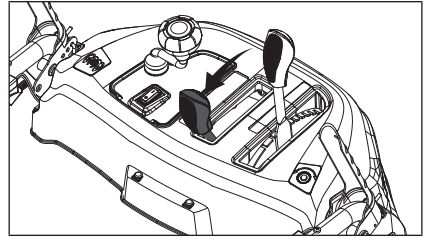

Figure 78
1. Adjust deflector to fully upright, open position by moving the control all the way back. (Fig. 78)